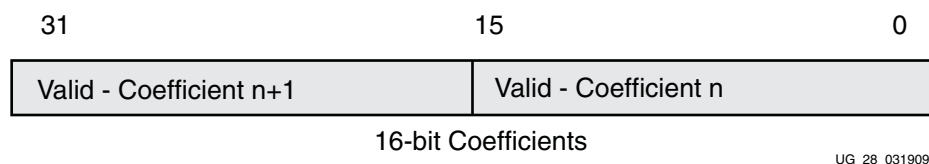

Figure 3-6: Coefficient Write-Format on `coef_data_in(31:0)`
The 32-bit input word loaded via the `coef_data_in` register always holds two coefficients. The scaler supports 16-bit coefficient bit-widths. The word format is shown in Figure 3-6.
- `coef_data_in` delivers two coefficients per 32-bit word. The lower word (bits 15:0) always holds the coefficient that will be applied to the latest tap (the right-most or lowest). The word format is shown in Figure 3-6.
- **For YC4:2:2 or YC4:2:0**, when not sharing coefficients across H and V operations or across Y and C operations, one bank of luma (Y) and chroma (C) coefficients must be loaded into the FIFO **for each dimension** before they can be streamed into the coefficient memory. When sharing coefficients across H and V operations, it is only necessary to write coefficients for the H operation. Also, when sharing coefficients across Y and C operations, it is only necessary to write coefficients for the Y operation. This process is permitted to take as much time as desired by the system. This means that worst case, for a 12H-tap x 12V-tap 64-phase filter, you need to write 6 times per phase. If you have specified separate H and V coefficients and separate Y and C coefficients, this is a total of **1536** write operations per set.